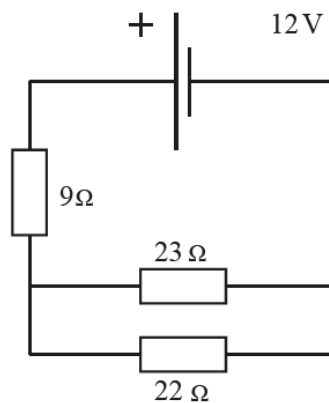

Fig. 5
- 3 (a) Fig. 5 shows a resistor circuit.